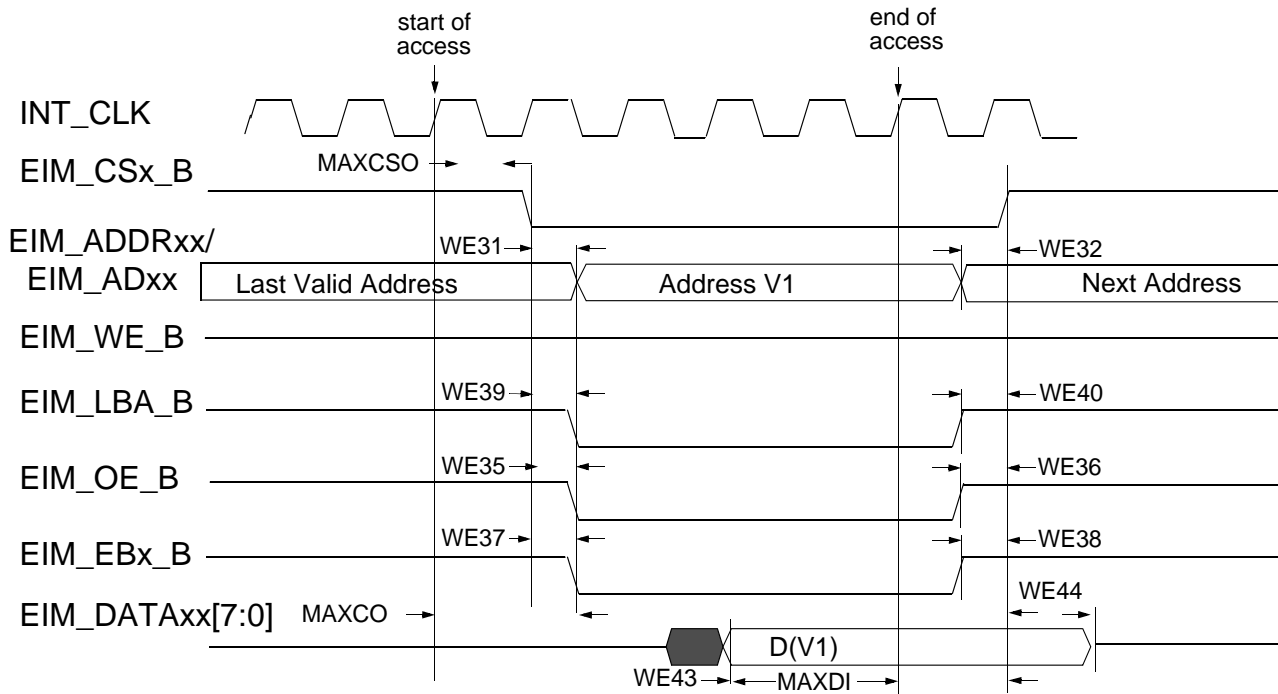

Figure 19. Asynchronous Memory Read Access (RWSC = 5)
Figure 19 through Figure 23, and Table 43 help you determine timing parameters relative to the chip select (CS) state for asynchronous and DTACK EIM accesses with corresponding EIM bit fields and the timing parameters mentioned above.
Asynchronous read & write access length in cycles may vary from what is shown in Figure 19 through Figure 22 as RWSC, OEN and CSN is configured differently. See the *i.MX 6Solo/6DualLite Reference Manual (IMX6SDLRM)* for the EIM programming model.